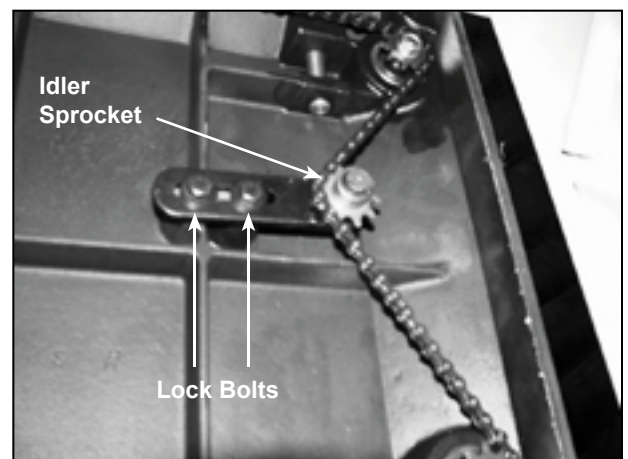

Figure 35
- 2 Loosen the 2 bolts that hold the idler sprocket which places tension on the chain. (Figure 35)